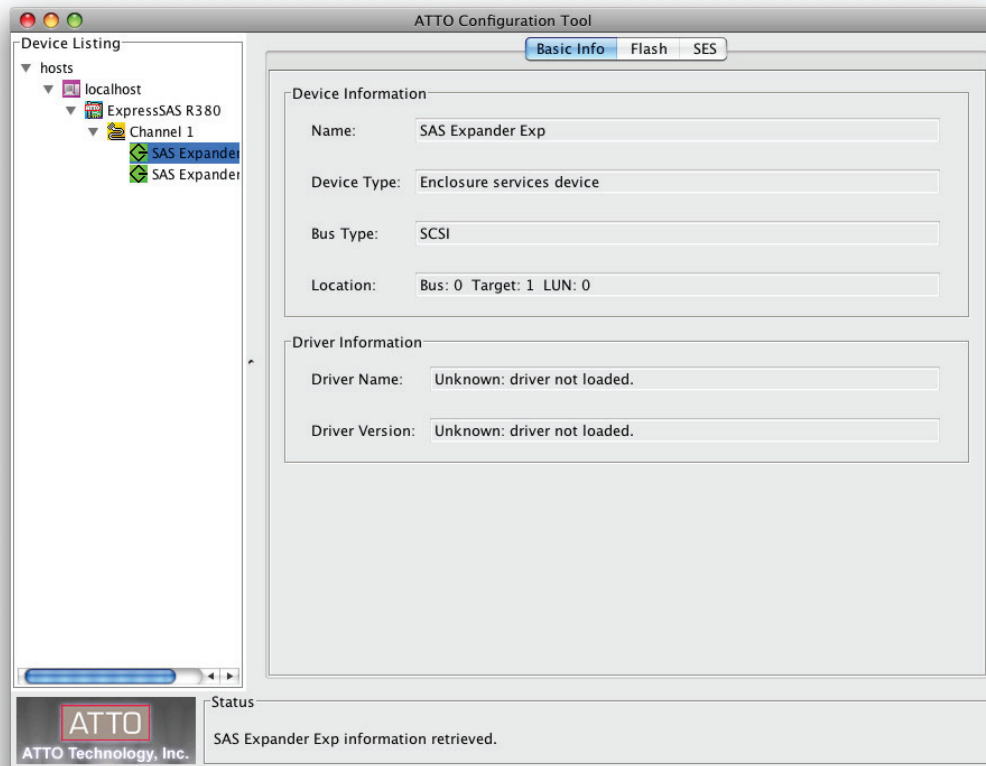

Figure 19
1. Select the Fusion drive enclosure from the Device Listing tree in the Configuration Tool. See **Figure 19** on page 24.